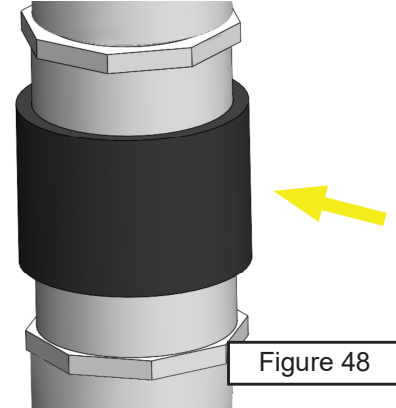

Figure 48
- c. With the (2) PVC bushing in place at the (2) open ends of the grey tank vent lines, next apply the all purpose plumbers cement to the 1 1/2" x 1 1/2" Hub x Hub black ABS coupling, then position the coupling between the (2) bushing adapters. (See Figure 48)